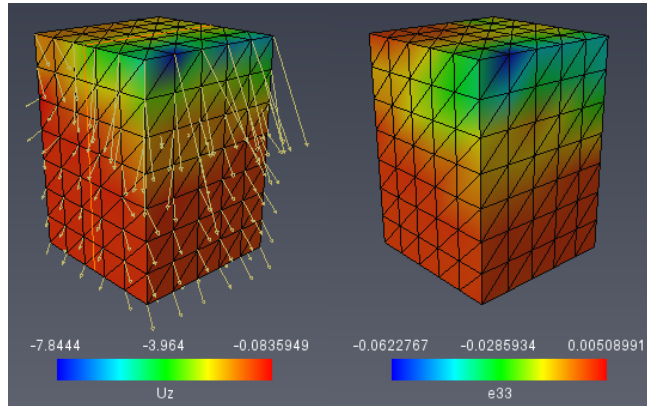

Figure 20.16: 3D visualization of the vertical displacement (left) and axial strain (right)
- To visualize the displacement vectors, connect a *Vector Field* module to *BCI_reference2.disp*. Set the *Scale* port to 25 (open more options on Scale port line and change Max value setting to 25), *Coloring* port to Uniform and select the yellow color from the port Uniform color. (see Figure 20.16).